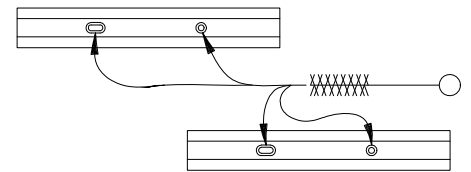

Figure 6-8 Clean beater shaft holes.
- e. The beater shaft and the scraper blade pin holes as shown in figure 6-8.